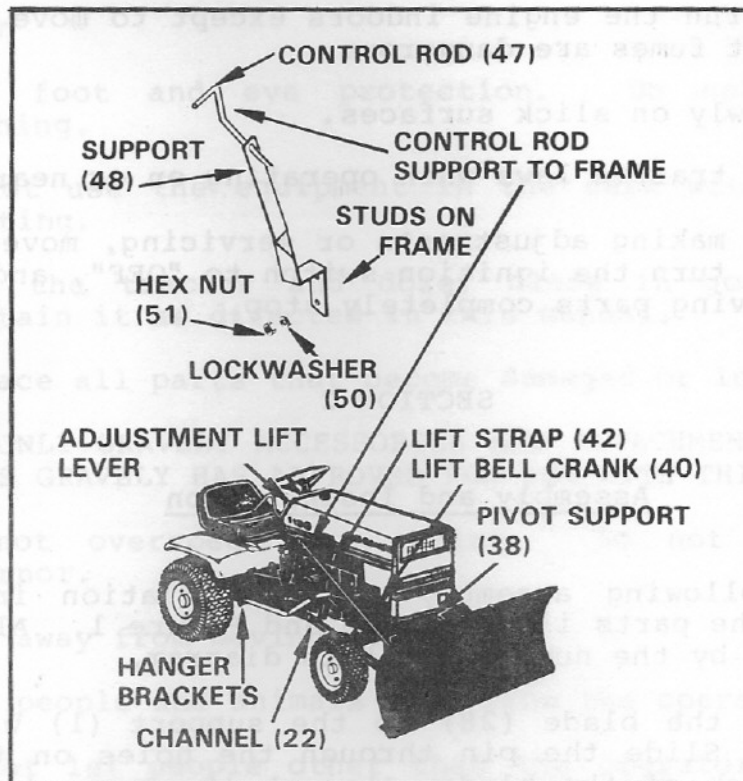

Figure 1
- 2.1 In the following assembly and installation instructions, refer to the parts illustration and Figure 1. All parts are identified by the numbers on this diagram.